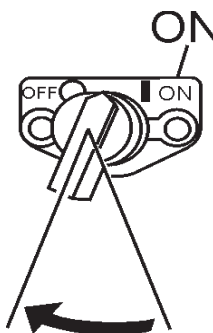

Figure 13. Engine ON/OFF Switch (ON Position)
5. Place the **engine ON/OFF switch** (Figure 13) in the "**ON**" position.